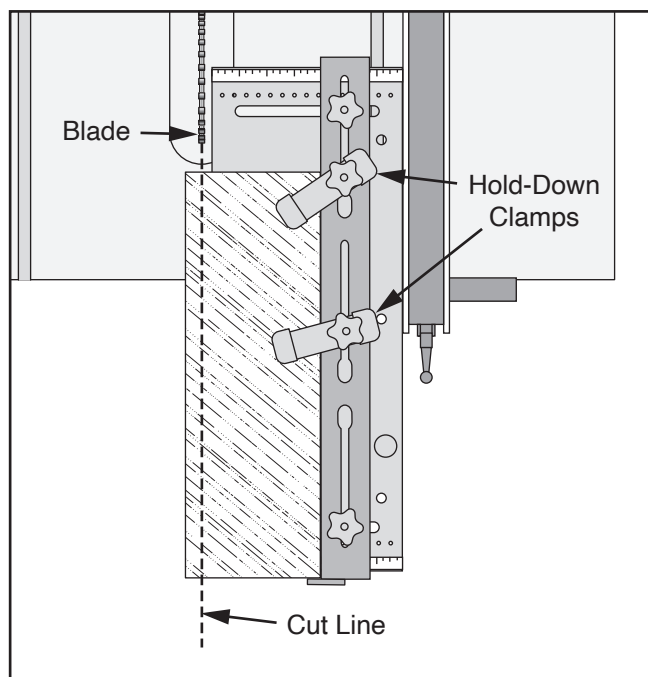

Figure 26. Workpiece prepared for cut.
10. Secure workpiece with hold-down clamps so they will not contact blade or blade guard during cut (see **Figure 26**), then tighten hold-down clamp knobs to secure.
11. Adjust table saw rip fence so workpiece cut line is aligned with blade kerf (see **Figure 26**), then lock.